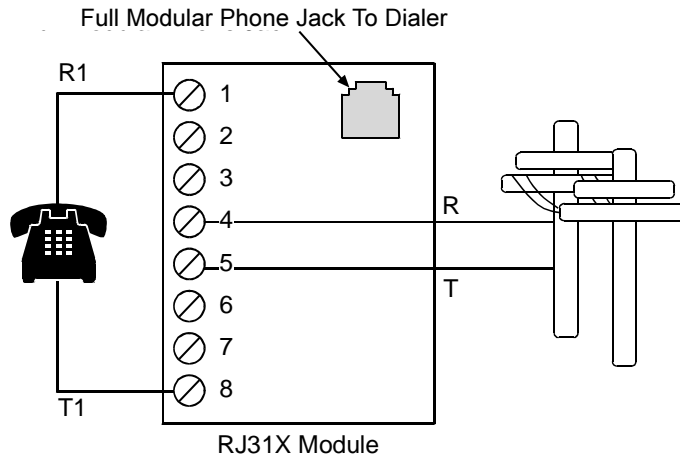

Figure 13: RJ31X Wiring
To prevent jamming of alarm and other reports, wire and locate the RJ31X or RJ38X jack so that normal phone use is temporarily interrupted while the DCT-1/1E transmits data (see Figure 13). After installation, confirm that the DCT-1/1E seizes the line, acquires dial tone and reports correctly to the receiver.
- All phone line connections have been made according to Figure 13.